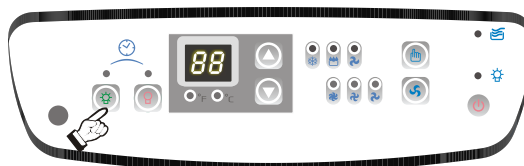
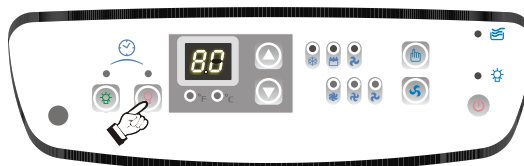

Fig. 22
Fig. 22a
- 2) Press the  key pad to initiate the **AUTO-OFF** time sequence. Fig. 22. The display window will indicate the time. Press the  keypad to select the desired **AUTO-OFF** stop time. Fig. 22a.
- 3) Press the  **TIMER-OFF** key pad to initiate the **AUTO-OFF** time sequence. Fig. 22. The display window will indicate **the time**. Press the  key to select the desired **AUTO-OFF** stop time. Fig. 22a.